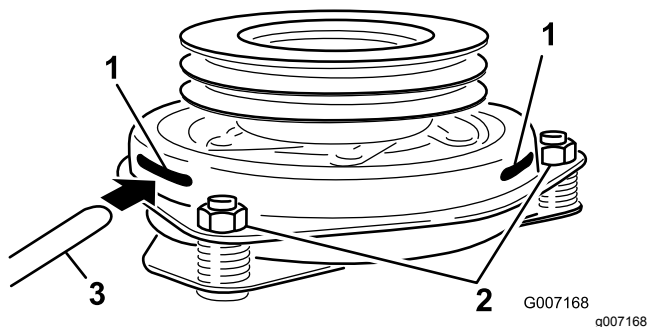

Figure 70
9. Insert a 0.381 to 0.533 mm (0.015 to 0.021 inch) feeler gauge through an inspection slot in the side of the assembly (Figure 70).
10. Tighten the locknuts until there is slight binding on the feeler gauge but it can be moved easily within the air gap (Figure 70).